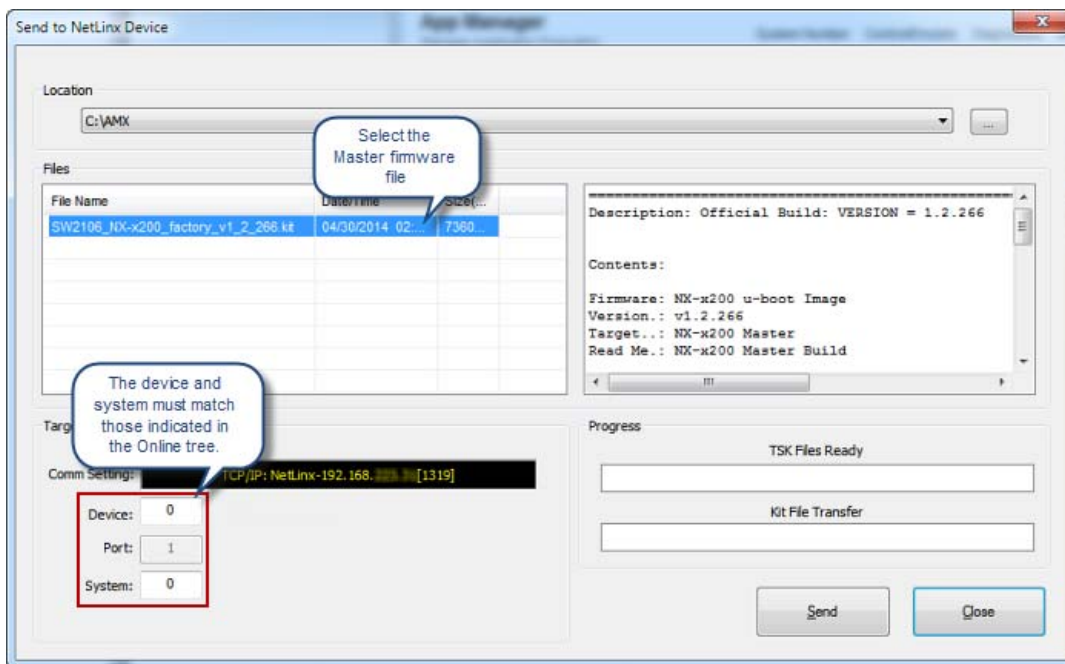

FIG. 42 Send to NetLinX Device dialog (showing on-board switcher firmware upgrade
- Note that the *Port* field is disabled (FIG. 42).